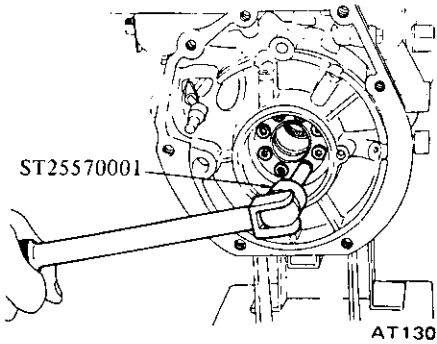

Fig. AT-64 Removing hex-head slotted bolt
18. Reaching through back side of transmission case, remove hex-head slotted bolts as shown in Figure AT-64. To do this, use Hex-head Extension ST25570001 (ST25570000). One-way clutch inner race, thrust washer, piston return spring and thrust spring can now be removed.